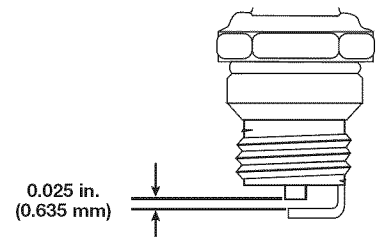

Fig. 26
3. Replace a cracked, fouled or dirty spark plug. Set the air gap at **0.025 in. (0.635 mm)** using a feeler gauge (Fig. 26).